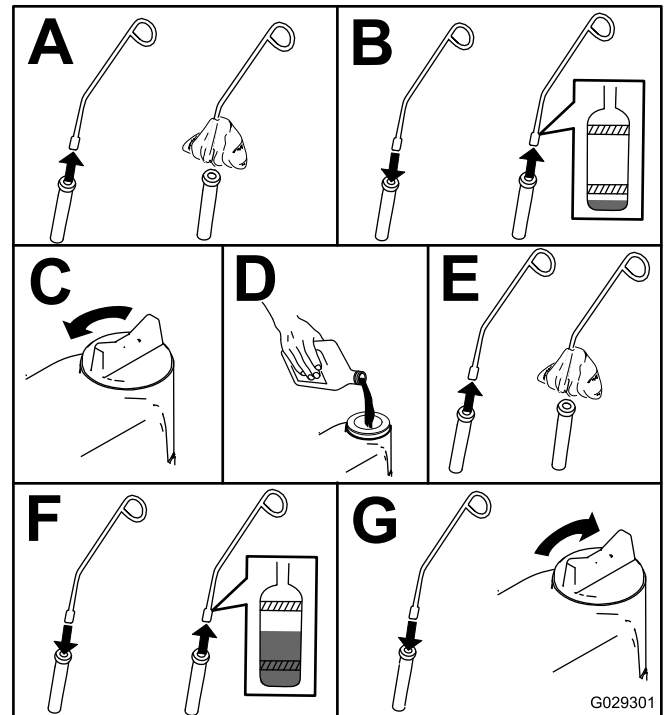

Figure 98
5. Check the engine-oil level as shown in Figure 98.